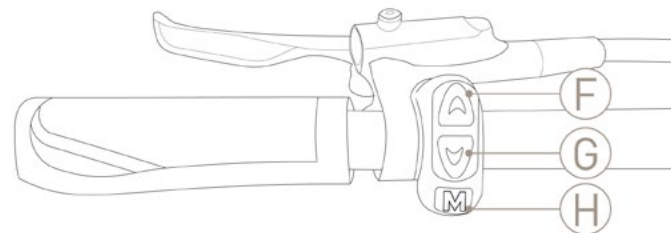

FIG. 5
To activate the walking assistance function, keep the "DOWN" key pressed (Ref. G in Figure 5). The engine will activate, and the appropriate warning will appear on the display. The engine will shut down in the following cases:
- Release of the "DOWN" button (Ref. G in Figure 5)
By pressing the "UP" + "DOWN" buttons (Ref. F - G - Figure 5) at the same time for two seconds, it is possible to open the menu screen. From any screen, by holding down the "POWER" button for 2 ", you can return to the last Home screen displayed. Once entered, it is possible to move in the menu with the "UP" and "DOWN" buttons and press "POWER" to enter.
Before pressing the F and G buttons at the same time (Figure 5), position yourself firmly on the bike and activate the brake, so as not to accidentally activate the starting mode from a standstill.